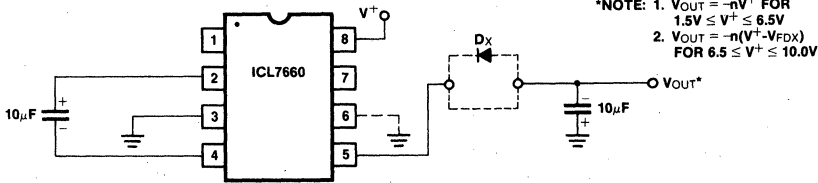
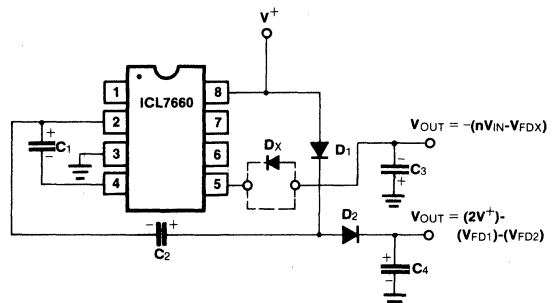

Figure 4: Simple Negative Converter
Figure 10: Combined Negative Converter and Positive Multiplier
The majority of applications will undoubtedly utilize the ICL7660 for generation of negative supply voltages. Figure 4 shows typical connections to provide a negative supply where a positive supply is available. A similar scheme may be employed for supply voltages anywhere in the operating range of +1.5V to +10.0 volts, keeping in mind that pin 6 (LV) is tied to the supply negative (GND) only for supply voltages below 3.5 volts, and that diode D_x must be included for proper operation at higher voltages and/or elevated temperatures.
The output characteristics of the circuit in Figure 4 are those of a nearly ideal voltage source in series with 70 ohms. Thus for a load current of -10mA and a supply voltage of +5 volts, the output voltage will be -4.3 volts. The dynamic output impedance due to the capacitor impedances is approximately $1/\omega C$ where
Figure 10 combines the functions shown in Figures 4 and 9 to provide negative voltage conversion and positive voltage multiplication simultaneously. This approach would be, for example, suitable for generating +9 volts and -5 volts from an existing +5 volt supply. In this instance capacitors C₁ and C₃ perform the pump and reservoir functions respectively for the generation of the negative voltage, while capacitors C₂ and C₄ are pump and reservoir respectively for the multiplied positive voltage. There is a penalty in this configuration which combines both functions, however, in that the source impedances of the generated supplies will be somewhat higher due to the finite impedance of the common charge pump driver at pin 2 of the device.